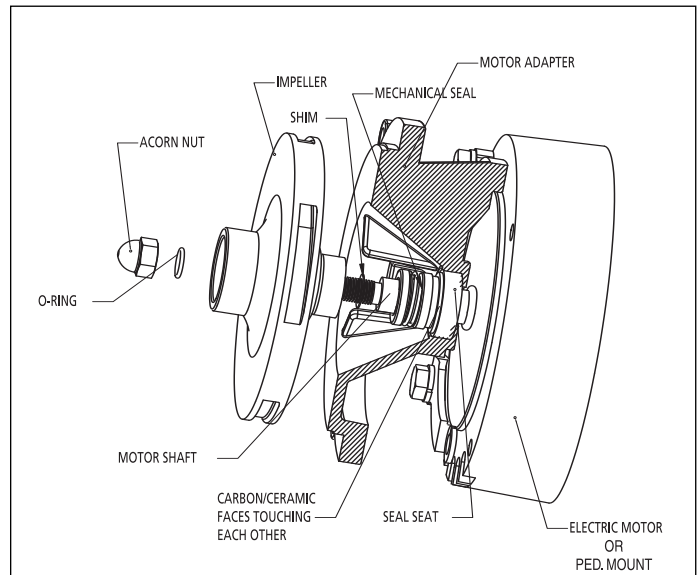

Figure 6 - Seal Impeller Installation
6. Wet the inside rubber portion of the new seal (part of Ref. No. 6) with a light coating of soapy water. Slide onto the motor shaft with the precision sealing surface (carbon) facing the seal seat ceramic face (See figure 6). This completes seal installation.
7. Screw impeller (Ref. No. 8) onto shaft. Use screwdriver slot at rear of motor shaft (opposite the threaded end) to securely tighten impeller. A drop of removable thread lock should be applied to the impeller threads. Impeller should be torqued to 15 to 18 ft-lbs. (180 to 210 in-lbs.) (See figure 6).